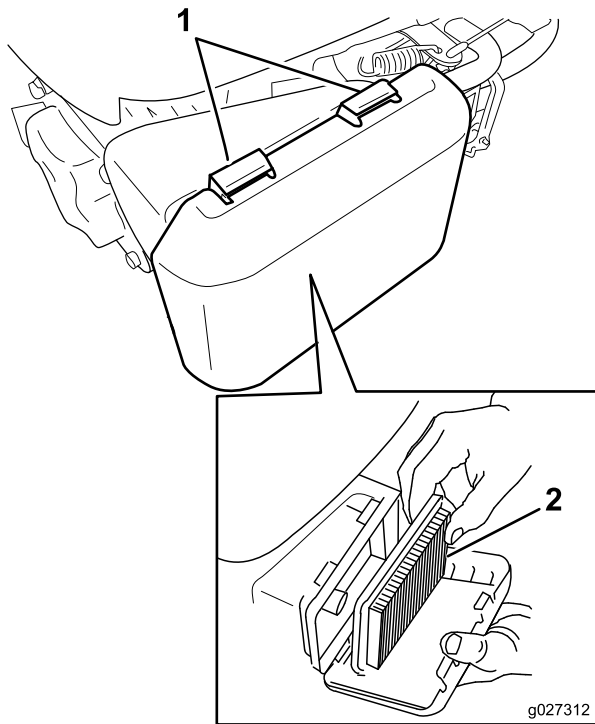

Figure 18
2. Press down on the latch tabs on top of the air-cleaner cover (Figure 18).